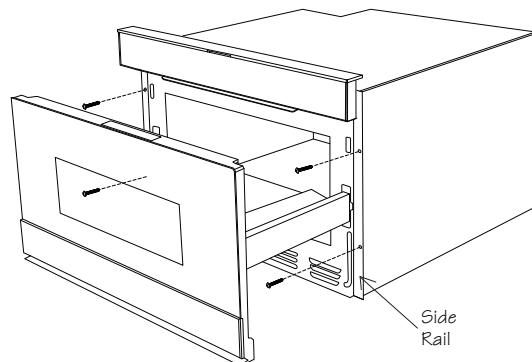

Figure 10
3. Slide the drawer all the way until the mounting flange is flush with the face of the cabinet. See Figure 10.
4. Open the drawer. Using the 4 holes on the drawer as a template, pre-drill the cabinet using a 1/16" bit. See Figure 10.